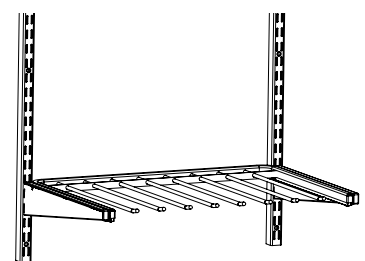

Figure 8
STEP 9: Slide the pants rack into its surround assemble (**Figure 8**).